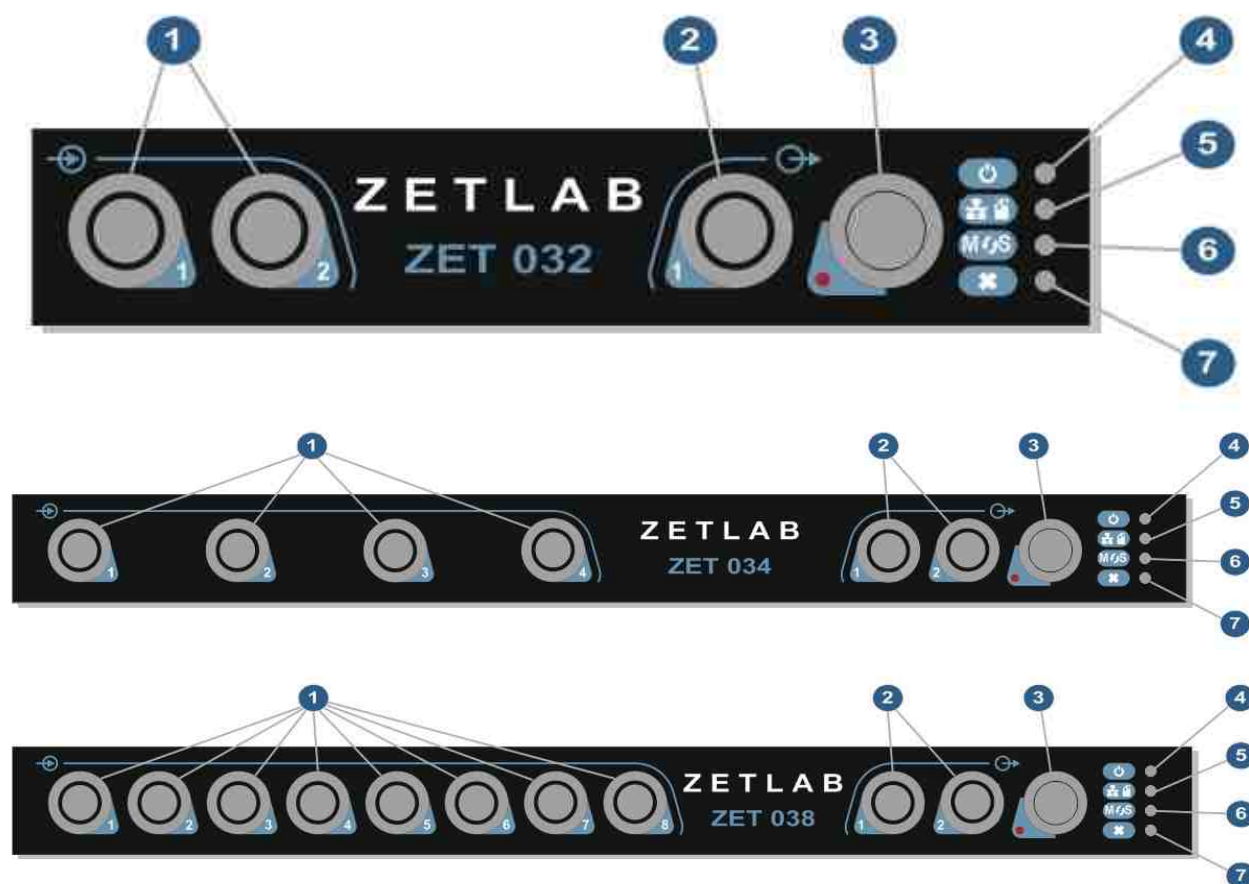
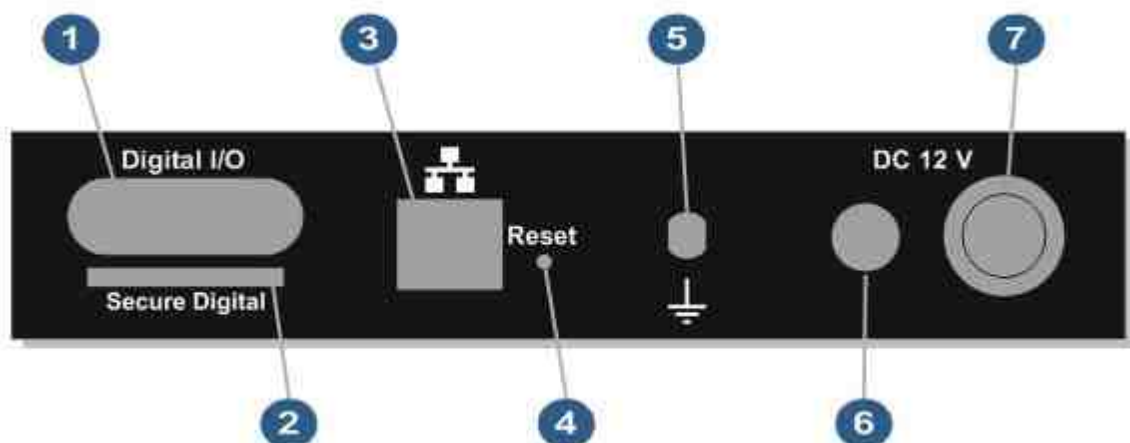
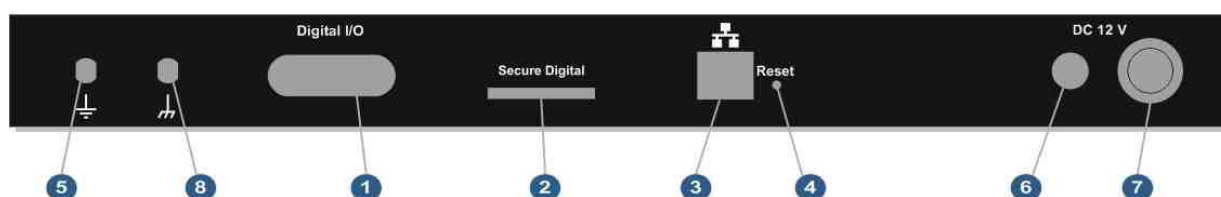

Fig. 1.4 Front panels of controllers ZET 032, ZET 034 and ZET 038
Fig. 1.5 Rear panel of ZET 032 controller
Fig. 1.6 Rear panel of ZET 034 and ZET 038 controllers
In case of hardware start of registration, move the "Start/Stop recording" button (pos. 3 Fig. 1.4) to the "Pressed" position, while the "Signal Recording" program (Fig. 4.13) will be launched on the computer, which starts recording the recorded signals. To stop the recording, press the "Start / Stop recording" button again to transfer it to the "Pressed" position.
On the rear panel of the controller, move the "On/Off" button (pos. 7 of Fig. 1.6) to the "On" position (button "Pressed"). At the same time, the indicators on the front panel should light up in green: the operation status (pos. 4 of Fig. 1.4), as well as the indicator of the first measuring channel, which means that the controller is ready for operation.
To start recording, switch the "Start/Stop recording" button (pos. 3 Fig. 1.4) to the "On" position (the button is recessed), while the operating mode indicator starts flashing blue with a frequency of 1 second, informing about the recording of signals.
On Fig. 1.4 shows the front panels of the controllers ZET 032, ZET 034 and ZET 038, and in the table Tab. 1.3 shows the purpose of the panel elements.
On Fig. 1.5 shows the rear panel of the ZET 032 controllers, in Fig. 1.6 rear panel of controllers ZET 034 and ZET 038, and in the table Tab. 1.4 shows the purpose of the panel elements.